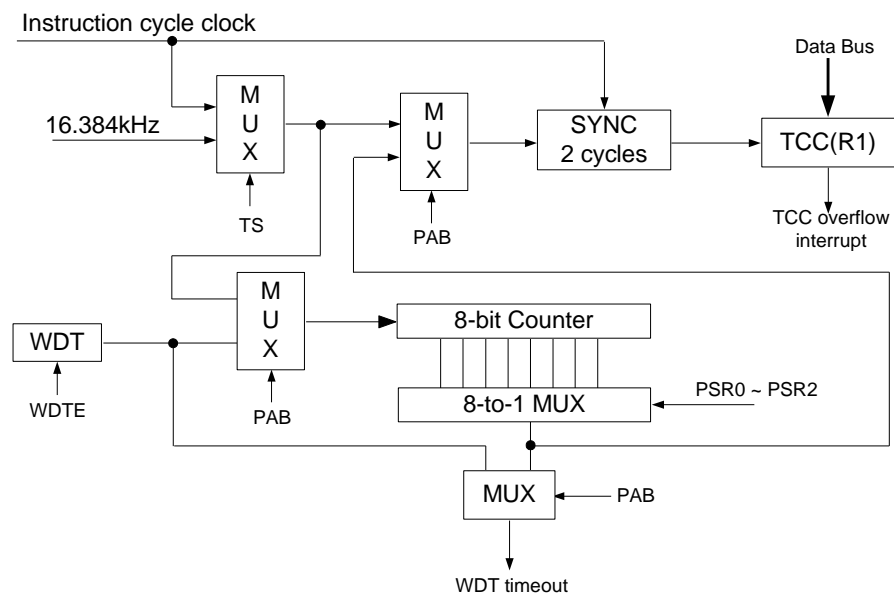

Figure 5-7 TCC and WDT Block Diagram
- Figures 5-7 depict the circuit diagram of TCC/WDT.